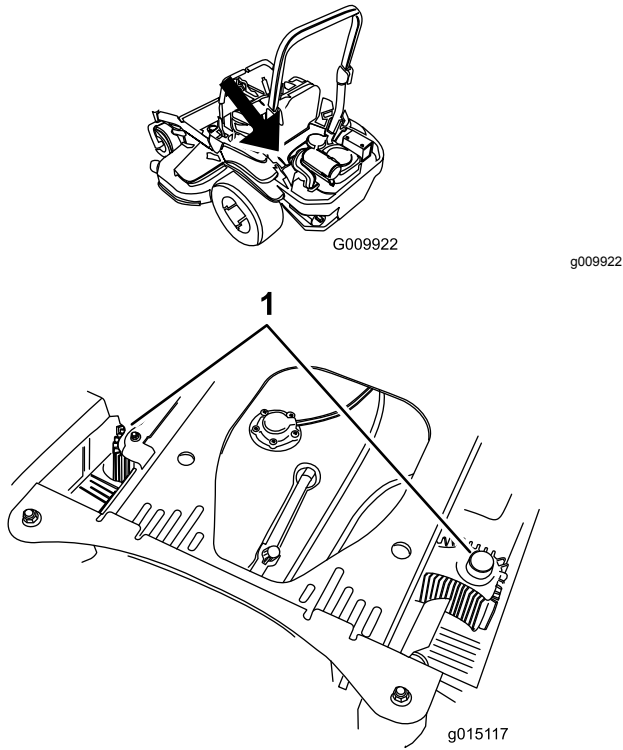

Figure 71
4. Clean the debris and grass from the hydraulic units (Figure 71).